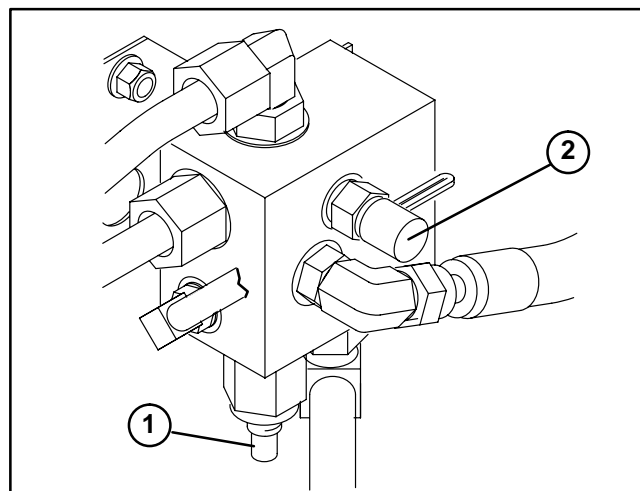

Figure 4
**NOTE:** The test port is used to check hydraulic circuit pressure. Check pressure with lift lever in FLOAT position, engine running at high idle and hydraulic oil at its normal operating temperature (Fig. 4).
**NOTE:** The counterbalance has been pre-set at the factory and should not require adjusting. Rotating manifold screw to increase or decrease pressure will increase or decrease counterbalance (Fig. 4).